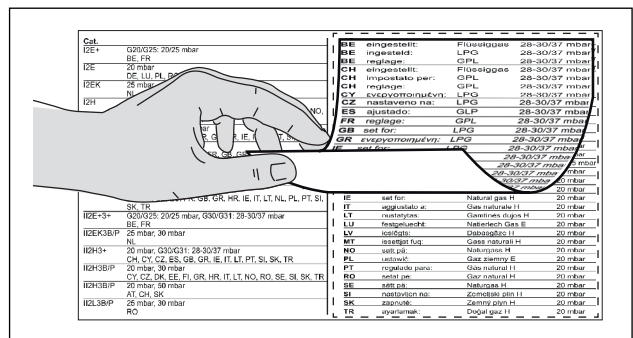

Fig. 5.27 Affixing the nozzle set nameplates
- ▶ Affix the nozzle set nameplates supplied in the scope of delivery to the space provided above the nozzle set nameplate on the bottom of the cooktop (see fig. 5.27) and on the back of these operating and installation instructions.